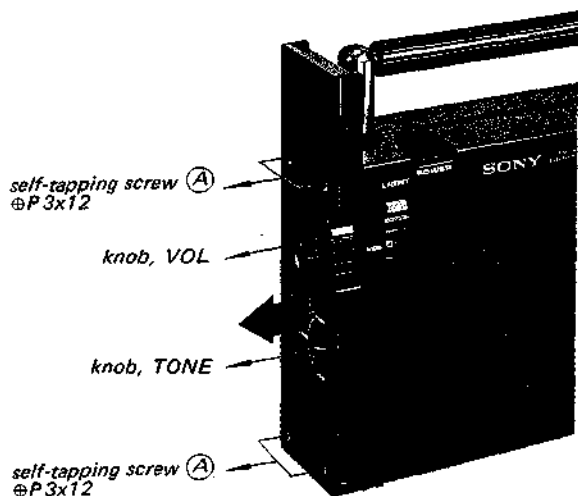

Fig. 2-1.
1. Remove the four screws labeled (A) in Fig. 2-1.
2. Pull off the left side cover along with the VOL knob and TONE knob as shown in Fig. 2-1.